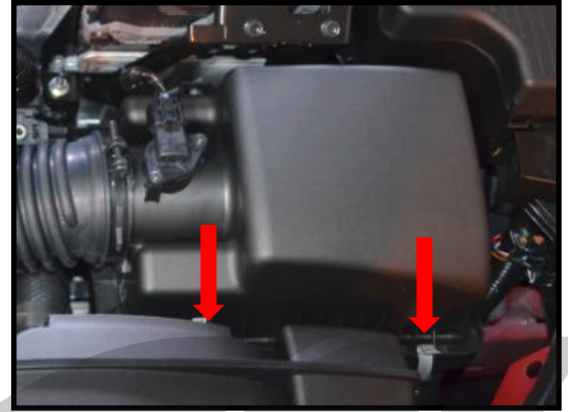

Figure 3e
- e) Remove Air Box Bracket (red arrows Figure 3e). They will push off the top of the box but stay on the lower housing of the air box.